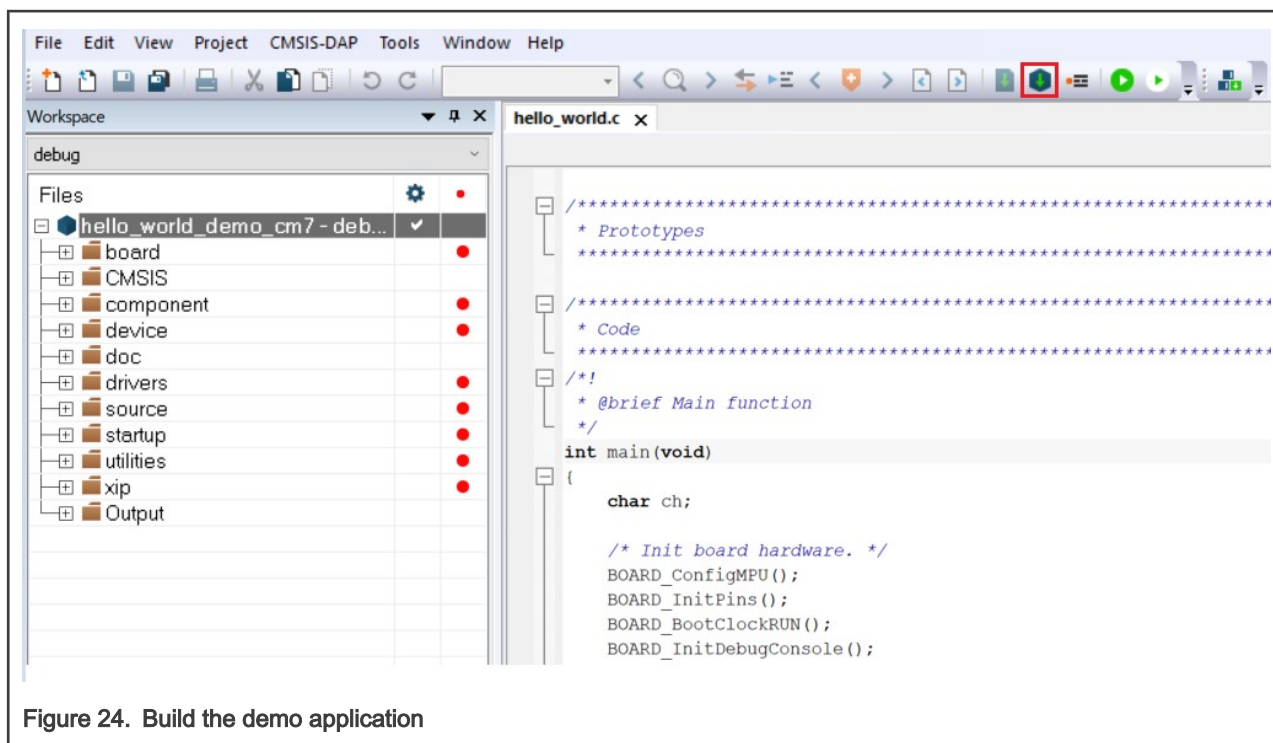

Figure 24. Build the demo application
3. To build the demo application, click Make, highlighted in red in Figure 24.